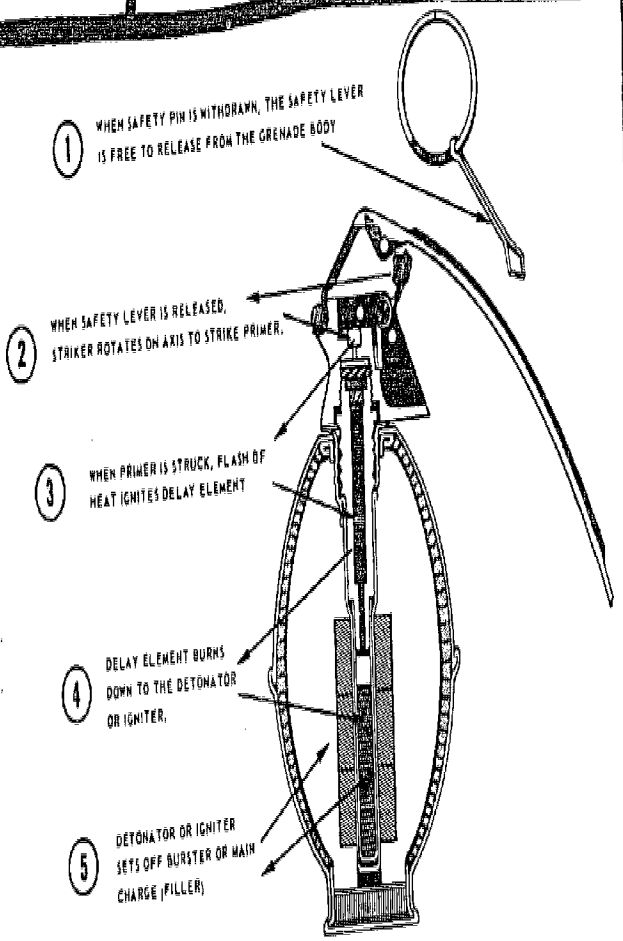

Figure 1. Fuze functioning. (For details of the fuze, see the fuze manual.)
6. Functioning (fig. 1)
(e) When the safety lever (fig. 1) is forced away from the grenade body, the striker rotates and strikes the primer.